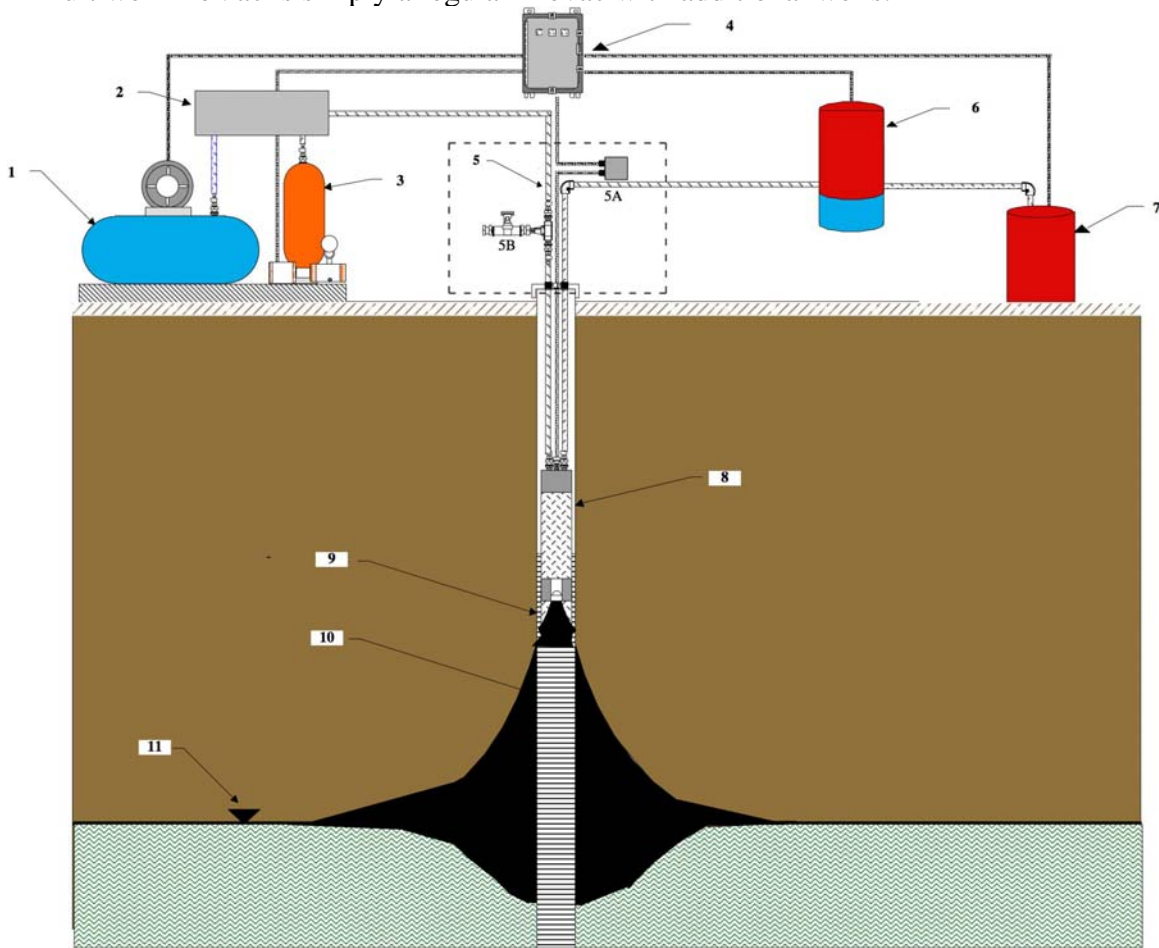

FIGURE 1 PROFILE OF REGULAR PROVAC INSTALLATION
Figure 1 shows a typical installation of SPE ProVac System. A vacuum system (3) will commence applying a vacuum to the Down Well Unit (8) which in turn will exert forces on the liquid in the well and surrounding the well (9), causing an up conning of the